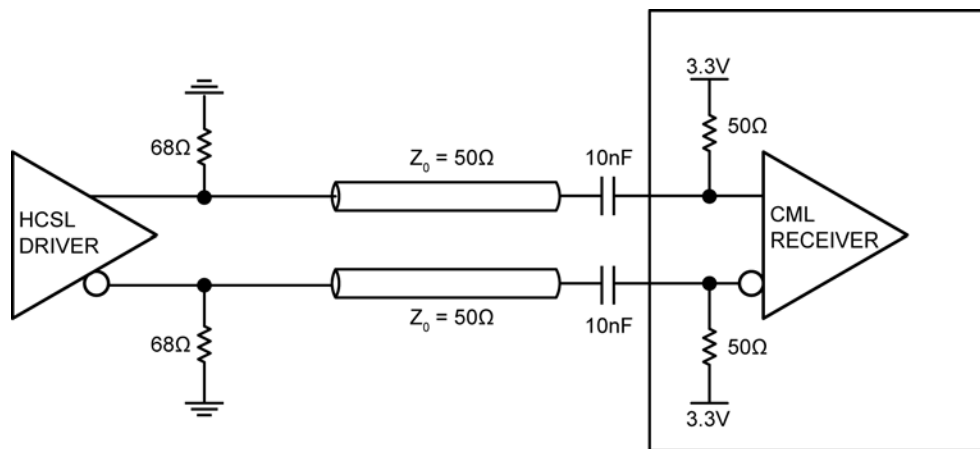

Figure 9. HCSL-to-CML Translation
In Figure 9, each of HCSL output pins switches between 0 and 14mA. When one output pin is low (0), the other is high (driving 14mA). The equivalent loading for HCSL driver is 68Ω parallel to 50Ω , which equates 28.81Ω . The swing level on the CML input is $14mA \times 28.81\Omega = 403mV$. A 10nF AC-coupled capacitor should be placed in front of the CML receiver to block DC level coming from the HCSL driver. Additionally, self-biasing inside the CML receiver input must be confirmed. If the self-biasing at the input of CML is not present, a 50Ω termination resistor to VCC must be placed on the PCB for CML biasing and transmission line termination.